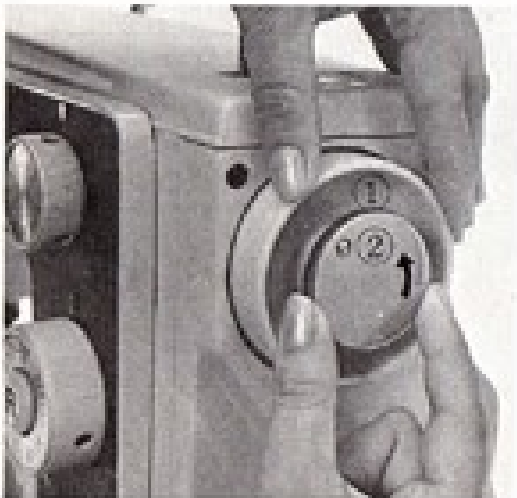
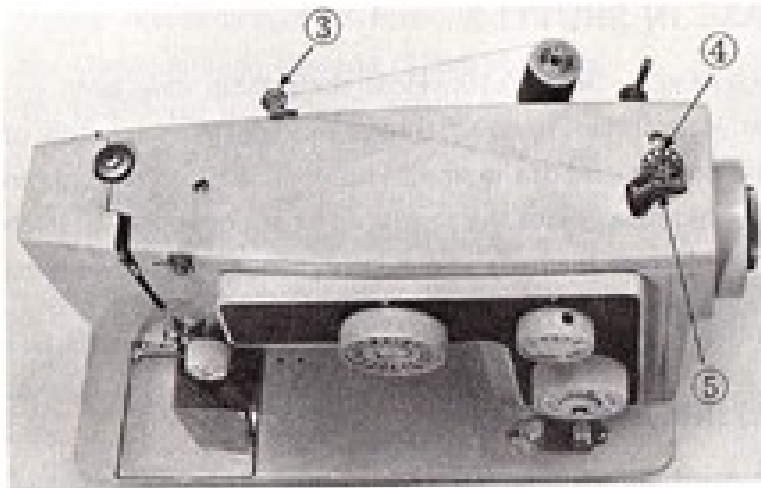

Fig. 5
Fig. 6
Disengage the hand wheel (1), Fig.5) from the stitching mechanism by turning the clutch (2), Fig.5) toward you or counter clockwise. Place a spool of thread on one of the spool pins and lead thread around one set of arm thread guide (3), Fig.6) from under to upper. Run end of thread through a hole in the bobbin edge and place bobbin on spindle of bobbin winder (4), Fig.6) fitting the notch on bobbin over small pin on spindle. Push bobbin winder lever (5), Fig.6) against bobbin. Hold thread end loosely and start machine slowly.